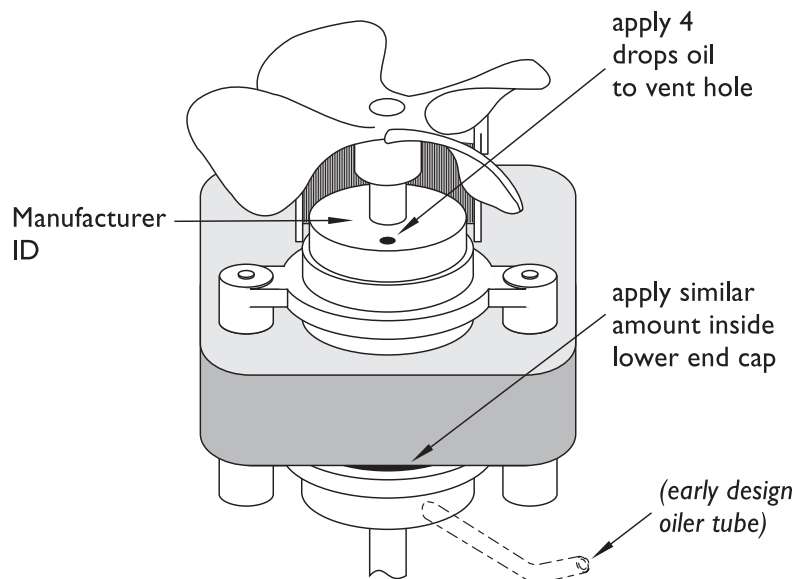

Figure 6—PUMP MOTOR
- 2 Oil the pump motor every 6 months with Anderol #465 (GAYMAR P/N77137-000) or equivalent to extend the life of the T/Pump motor. Anderol #465 is a synthetic oil. Do not use a petroleum-based oil since it will leave a residue as it breaks down, causing the motor to seize. Add four (4) drops of oil to the vent hole in the bearing housing of the motor located below the fan. Using a micro oiler, apply a similar amount to the lower bearing at the location indicated in figure 6.
NOTE: Early versions of the pump motor have an oiler tube which does not effectively distribute oil to the lower bearing. Do not use the oiler tube to apply oil to the lower bearing. Use a micro oiler to apply oil directly to the locations shown in figure 6.